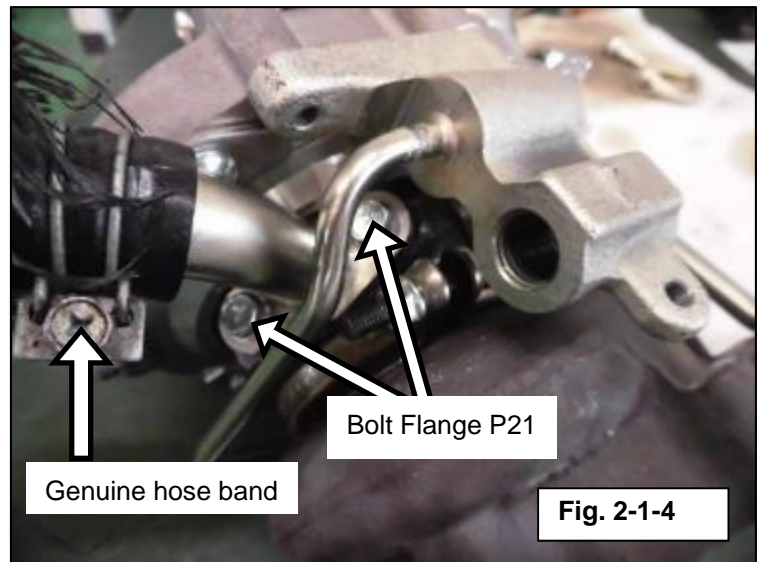

Fig. 2-1-4
(5) Tighten two genuine 6mm bolts of the front and rear turbocharger oil inlets.
(6) Attach the oil outlet pipe to the front and rear turbocharger. (Fig. 2-1-4)
(7) Attach genuine hoses and hose bands to the front and rear oil outlet pipes. (Fig. 2-1-4)